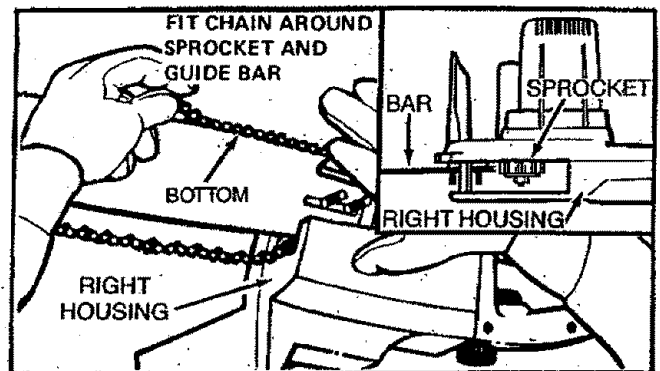

Figure 11
6. Slide the chain between the right housing and the sprocket. Figure 11 (inset). Place the chain around the sprocket and fit the drive links into the Guide Bar grooves — first the bottom and then the top groove, and then around the guide bar nose. Figure 11.